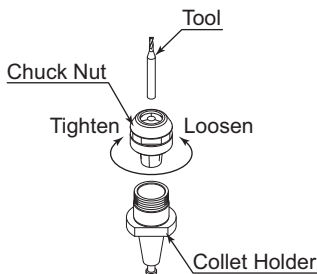

Fig 6
- ② Attach the collet chuck and chuck nut to the collet holder and lightly finger tighten. (Do not completely tighten until the end.) (Fig. 6)